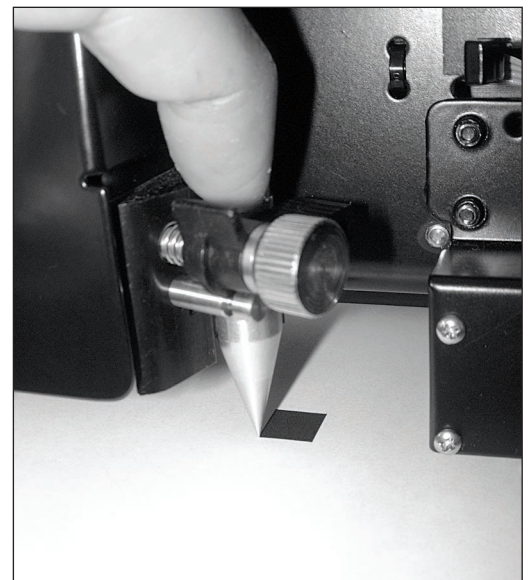

Figure 35. Press the tool down to verify the tip lines up with the corner of the box.
4. Turn the **Speed** knob down to the minimum level and continue to position the carriage and material until the tip is exactly over the corner. Gently press the tool down onto the paper to ensure that the tip is lined up. See the *Figure 35*.